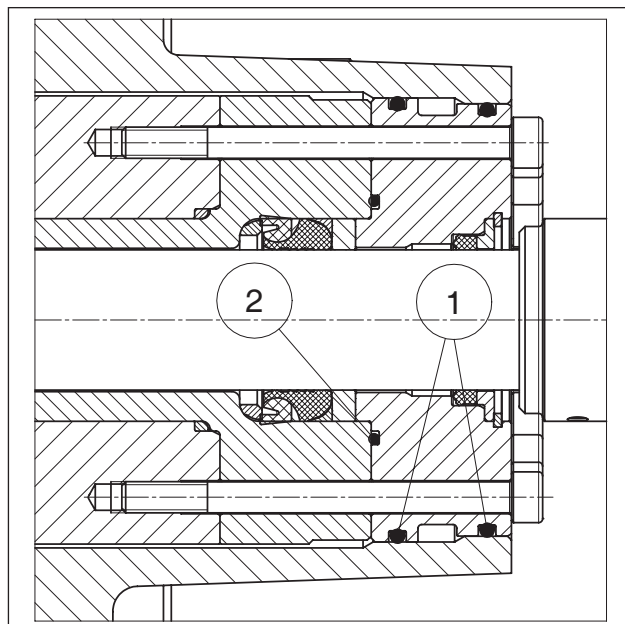
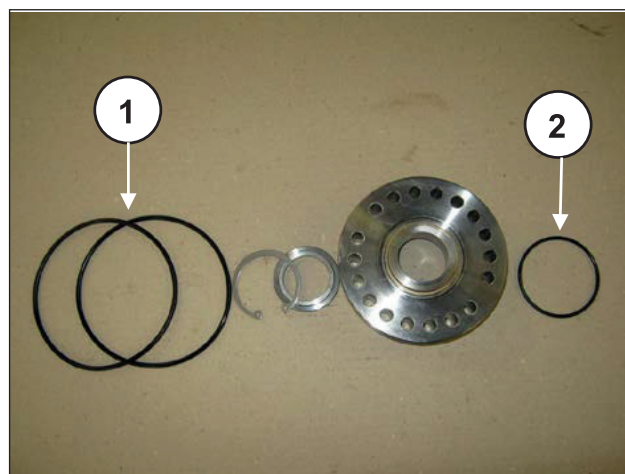

Fig. 206
Fig. 207
Reassemble the seal support unit (Fig. 206 and Fig. 207) replacing the components ① and ②.